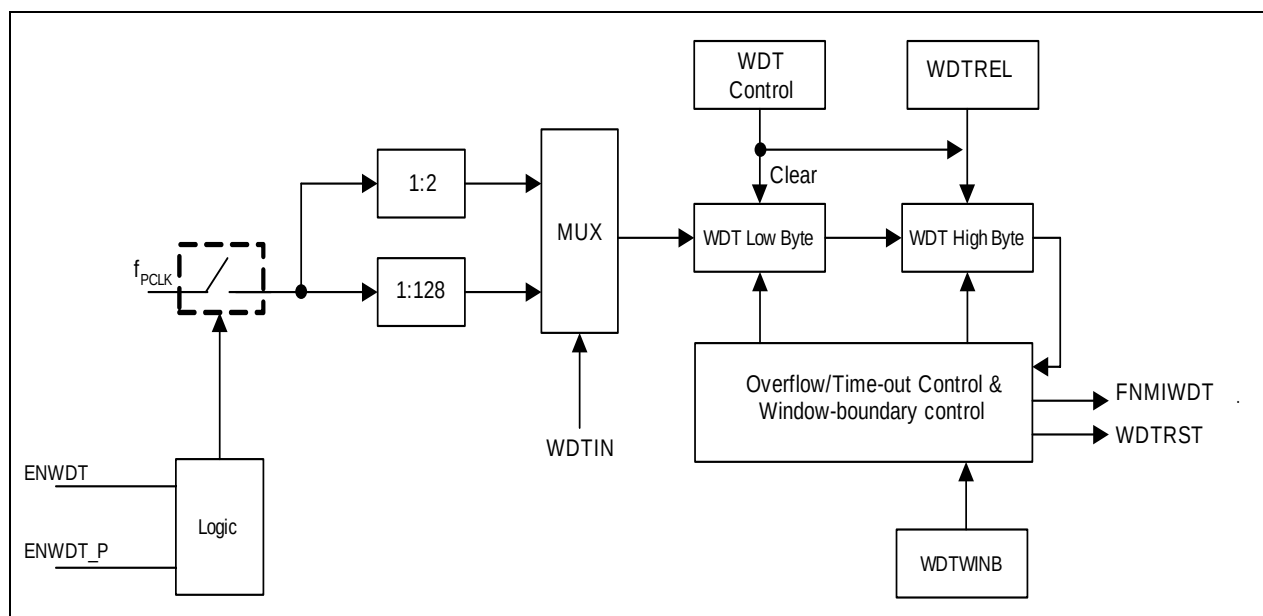

**Figure 27 WDT Block Diagram**
**Figure 27** shows the block diagram of the WDT unit.